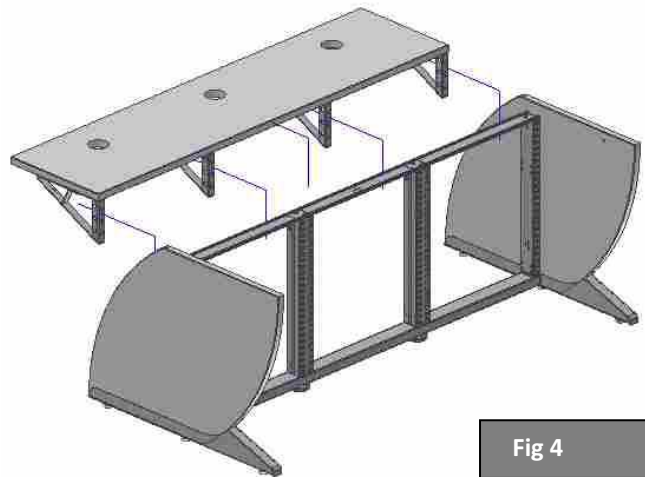

Fig 4
STEP 2 – Mount the **console shelf** with its **brackets** to the **base frame** of the **console** at the back (Fig.4).